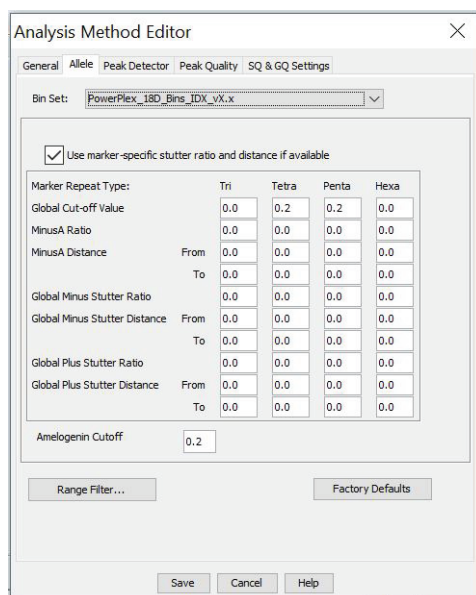

Figure 22. The GeneMapper® ID-X Software 'Allele' tab with settings for using a 20% peak filter.
6. Select the 'Allele' tab (Figure 22).
8. Ensure that the "Use marker-specific stutter ratio and distance if available" box is checked. Doing this will assign locus-specific stutter files and distances from the imported stutter file. Ensure that the appropriate global filter is applied to this analysis method. For example, for a 20% filter, enter "0.20" for the Global Cut-off Value for Tri, Tetra and Penta repeats (Figure 22).